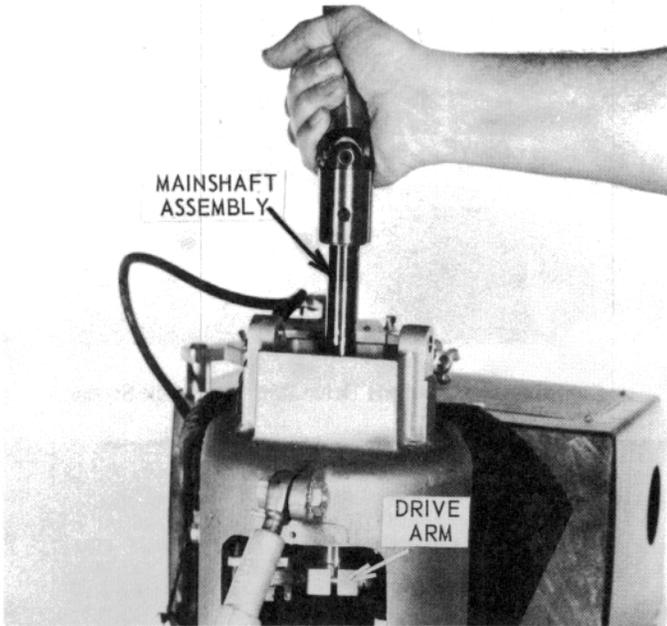

Figure 38 – Mainshaft Assembly and Drive Arm
- 1.2.14 Pull the mainshaft assembly up out of its housing to facilitate removal of the drive arm (see Figure 38).